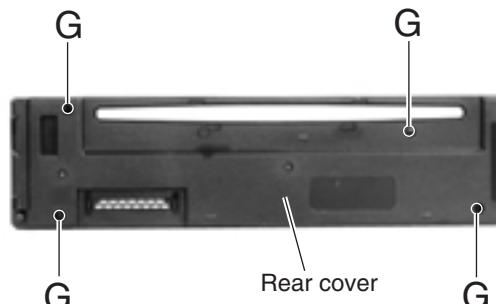

Fig.10
■ Removing the control switch board (See Fig.10 ~ 12)